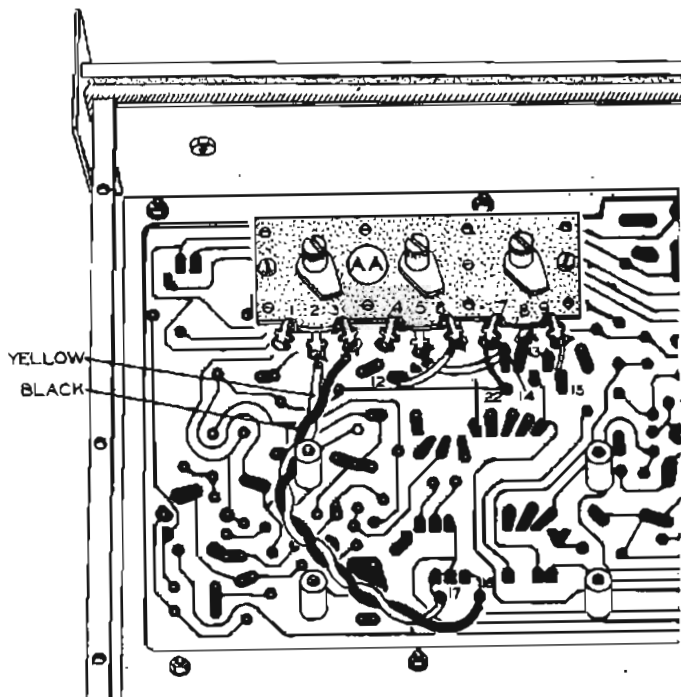

Figure 17
- ( ) As shown in Figure 17, install a triple 250 KΩ control (#13-3) at AA, on the indicated pair of phenolic spacers. Use 3-48 screws.
- ( ) Connect the wire from hole 22 to lug 7 (NS) of control AA.